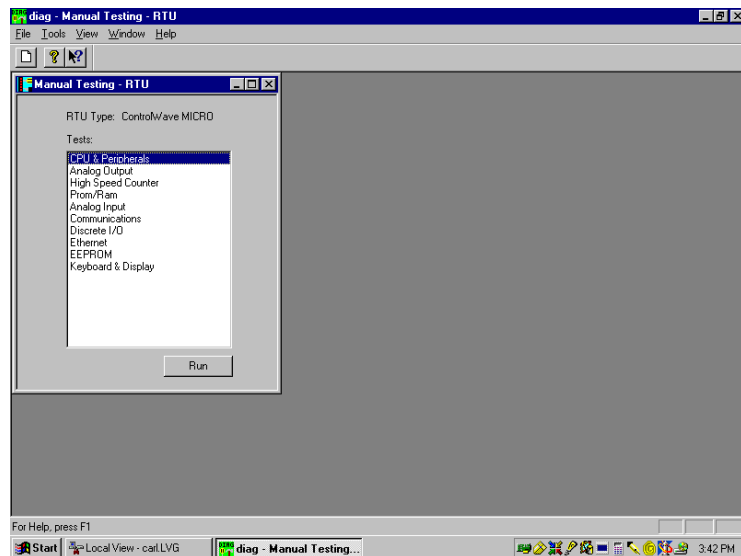

Figure 5-11. WINDIAG Main Diagnostics Menu
2. Select **Start > Programs > OpenBSI Tools > Common Tools > Diagnostics**. The Main Diagnostics menu (Figure 5-11) displays.
Using WINDIAG, you can test all Micro modules with the exception of the PSSM. WINDIAG's Main Diagnostics Menu (see *Figure 5-11*) provides the following diagnostic selections: